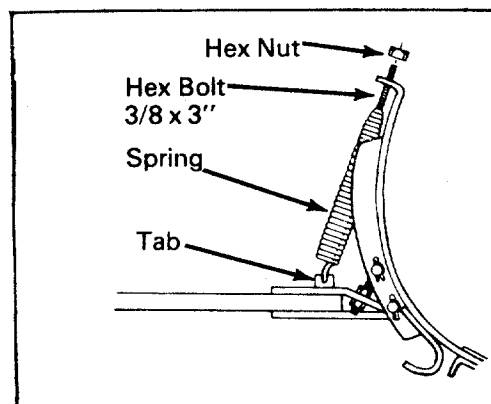

FIGURE 4
5. Assemble the Push Bar Assembly (see parts list) (33) to the Pivot Plate (21) with the Hex Head Bolt 5/8-11 x 2-1/2 (20) and secure with Hex Nut Lock Type 5/8-11 Thd. (22). Leave the Hex Nut loose enough to allow the Push Bar Assembly (33) to pivot freely. Place the Clevis Pin (19) through the center hole in the end of the Push Bar. Secure the Clevis Pin with Hairpin (8).
6. Place the Hex Head Bolt 3/8-16 x 3 through the Extension Springs. Tip the Blade into the normal operating position. Hook the loop end of each Extension Spring through the eye on the Pivot Plate. Push the Hex Head Bolt 3/8-16 x 3 through the holes in the top edge of the Blade and fasten with Hex Nut 3/8. Tighten the nut until the Extension Spring stretches approximately one inch. Final adjustment can be made later to match the workload. (See figure 4).
The snow blade has an automatic trip mechanism to permit the blade to bypass solid obstructions and then spring back into position. Tension on the springs is increased by tightening the Hex Nuts 3/8-16 Thd. (See figure 4).